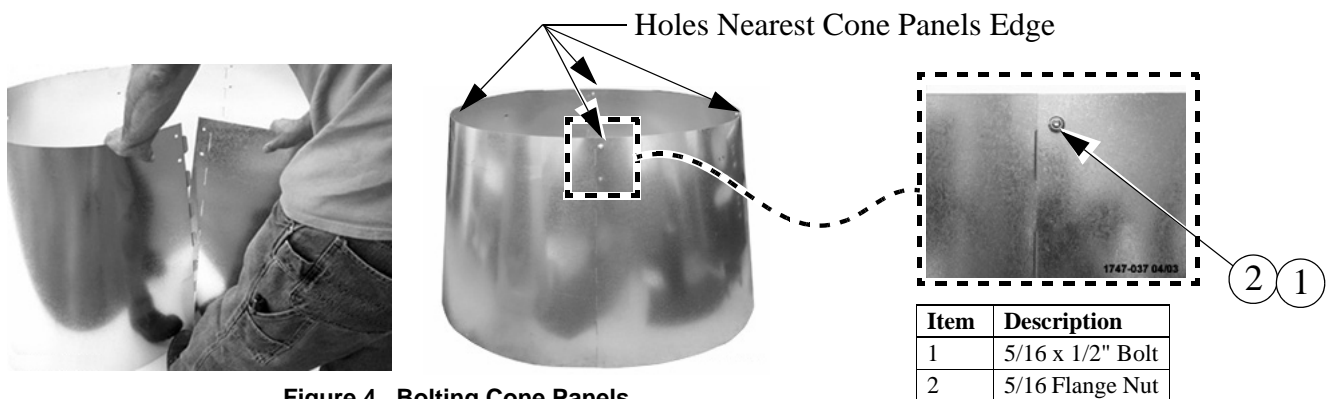

Figure 4. Bolting Cone Panels
When all four Cone Panels are connected, stand the panels up on edge and curl the Cone around with the smaller diameter of the Cone up as **shown below**. Assemble the final Panels together and allow the Cone to take its shape. If the Cone is assembled correctly the Tabs should all be on the Inside of the finished Cone. Fasten the Cone Panels together with (4) 5/16 x 1/2" Hex Bolts Threaded in from the inside of the finished Cone **as shown in Figure 4**. Do not tighten down the Nuts at this time. Leave the Nuts loose until the Cone is attached to the Fan.
Use a Level and rotate the Cone and Door Assembly until the Center Screen Wire (**Item 1, Figure 11**) is Vertical (**See Figure**). Once the Cone and Door Assembly is vertical, tighten the four 5/16 Flange Nuts (**Item 2**) holding the Cone to the Cone Brackets and also the four 5/16 Flange Nuts holding the Cone Panels together that were hand tightened in **Figure 4**.